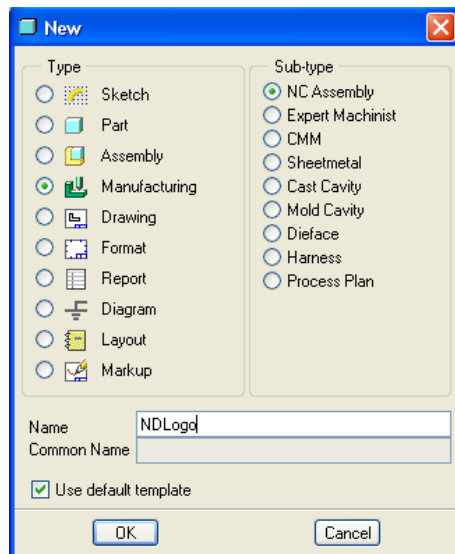

Figure 2a: New File Dialog Box
Step 2: Select Manufacturing Type on the New dialog box, then select **NC ASSEMBLY** as the Sub-type, **Name >> NDLogo** (Figure 2a)